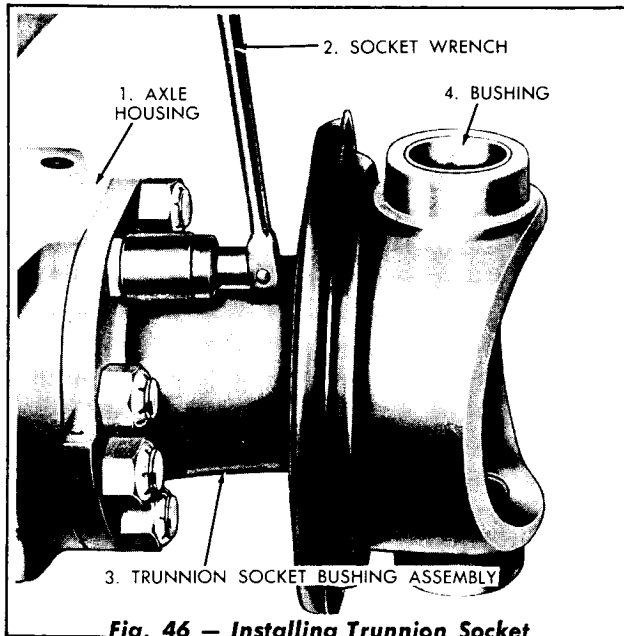

Fig. 46 — Installing Trunnion Socket Bushing Assembly
- a. Install the trunnion socket bushing assembly on the axle housing (Fig. 46).